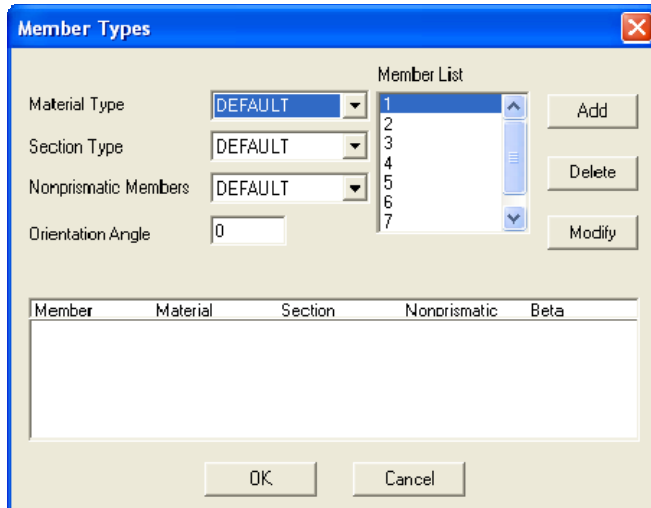

Figure 3-25 Member Types dialog box
- From the Process menu, select Member Types. The dialog box of Figure 3-25 appears. Some options may not be available, depending on the structure type selected.